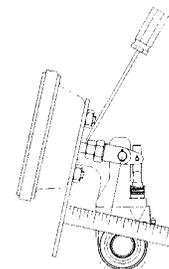

Figure 6 - Free Stroke
- Free stroke is the amount of movement of the brake adjuster arm required to move the brake shoes against the drum. With brakes released, measure from the face of the chamber to the center of the clevis pin. Use a ruler to measure the movement of the brake adjuster until the brake shoes contact the drum (**Figure 6**). The difference between the released and applied measurements is the free stroke. The free stroke should be 3/8" to 5/8".